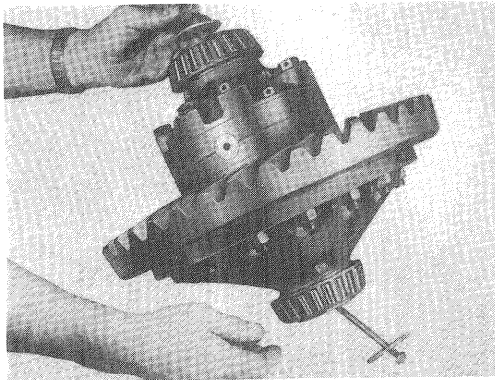

Fig. 3
2. Insert the NoSPIN differential retaining bolt and washer assembly. Thread the nut fingertight against the washer. (Fig. 3) If a retaining bolt and washer assembly are not available, hold the differential case firmly as the last bolts are being removed from the case halves to absorb spring pressure and prevent possible injury.